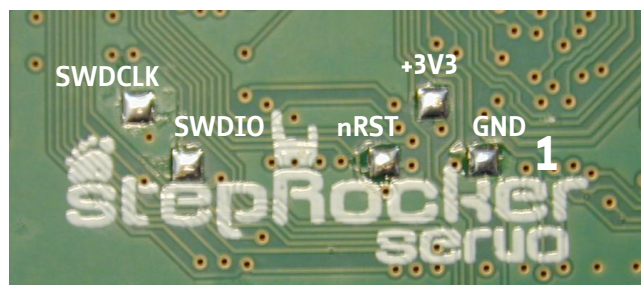

Figure 3: TMCM-1111 StepRocker Programming Pads
2. Short the SWDIO pad with the SWDCLK pad (on the bottom side of the PCB, see figure 3).